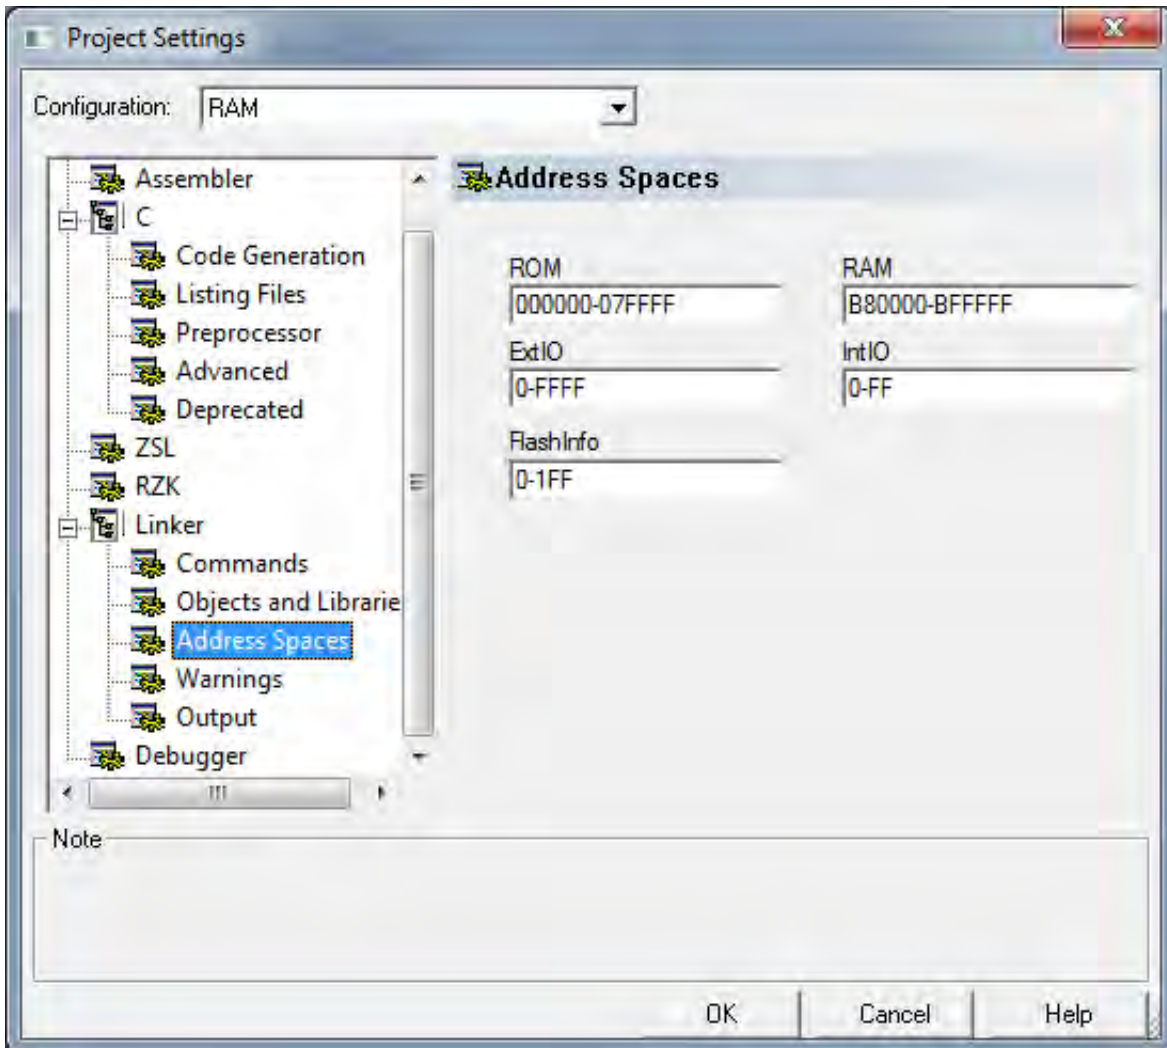

Figure 3. RAM Build Configuration: Recommended Address Space Settings
5. When configuring RAM build configurations using the eZ80F91x150MODG Module with the eZ80F91 Development Board, the recommended settings in the **Address Spaces** selection of the Project Settings dialog are shown in Figure 3. Ensure that your project's settings match the values displayed in this figure.